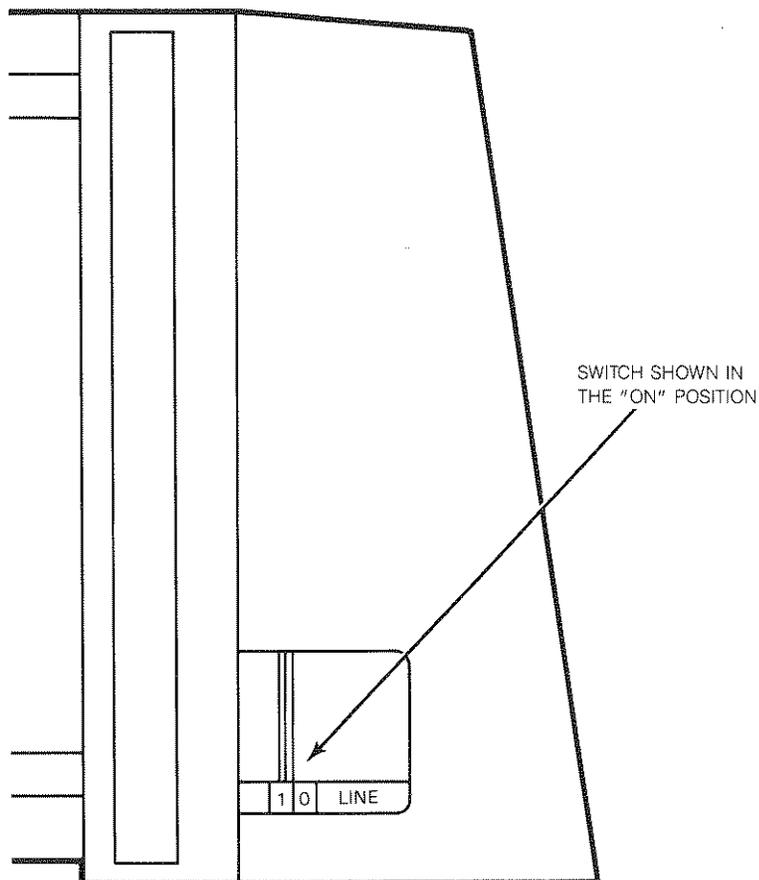

Figure 4-3. Front Panel Power Switch
1. The line switch is located on the left side of the instrument just rear of the front bezel at the lower edge (see figure 4-3).